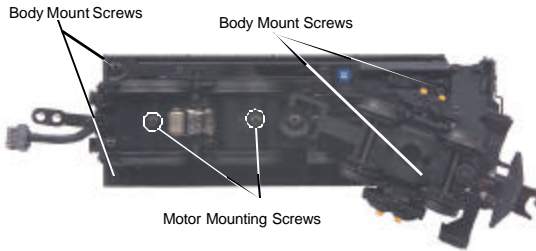

Figure 3: Body Removal Screw Locations
1. To access the gear box, remove the cab from the chassis by unscrewing the chassis screws as seen in Figure 3 and lifting the cab from the chassis.
2. Once the cab is removed, remove the trucks by unscrewing the black Phillips motor mount screw located on the underside of the drive trucks (see Fig. 3).
First, remove the truck sides from the truck block by unscrewing the mounting screws as noted in Figure 3.